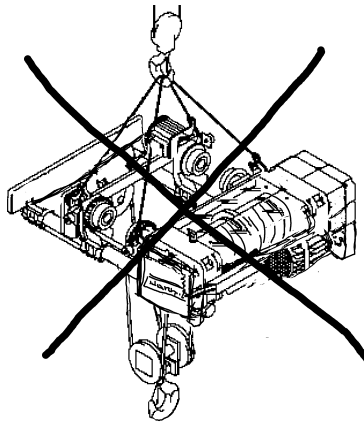
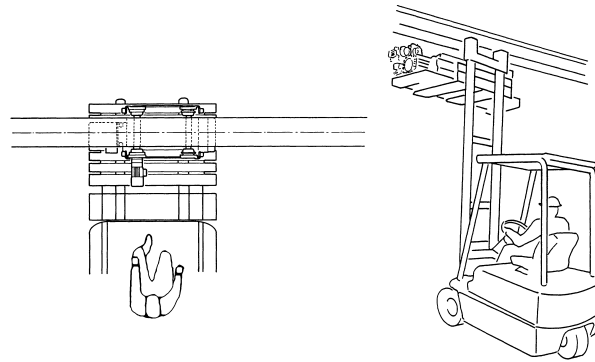

Figure 3-4 Lift Point for Deck Mount
Figure 3-5 Lift Point for Trolley Hoist
**⚠WARNING** When installing the trolley hoist on a beam, ALWAYS raise the hoist into position with the trolley assembled together and securely attached to a pallet. Raise the trolley hoist with a forklift, lifting platform, or other similar means. NEVER use slings to raise and install the trolley hoist onto the beam (see Figure 3-4). Using a forklift or another suitable means, position the pallet so that the horizontal axis of the beam is parallel to the horizontal axis of the hoist (see Figure 3-5)